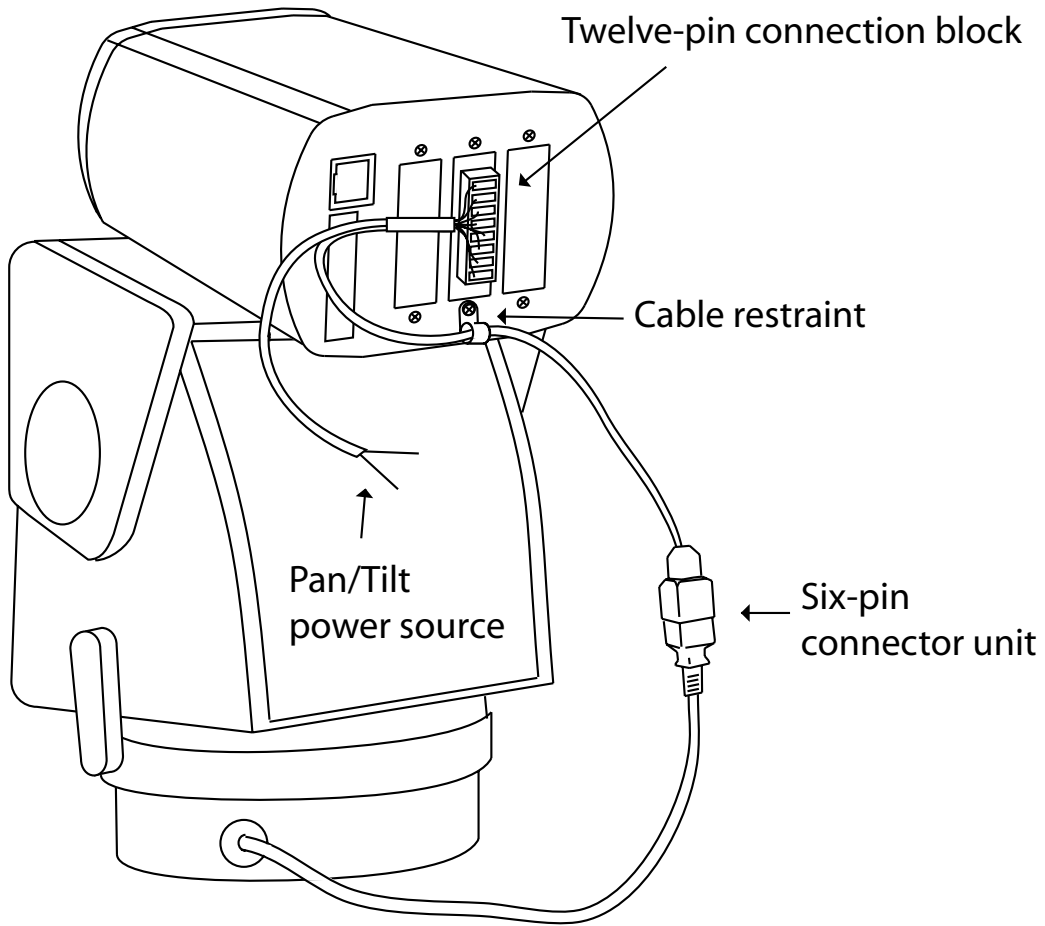

Figure 3-3 Cable Connections
2. Attach the twelve-pin block plug end of the "Y" cable to the twelve pin connector on the camera's Pan /Tilt option card (figure 3-3).
3. Attach the six-pin connector on the Pan/Tilt unit to the mating connector on the "Y" cable (figure 3-3).
4. Provide power to the Pan/Tilt unit using the power source end of the Y-cable (figure 3-3) connected to a 24 VAC (500mA) power supply (not provided).